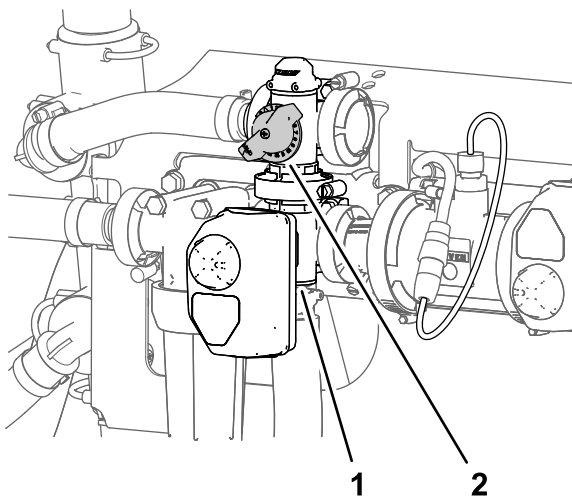

Figure 34
11. Adjust the agitation-bypass valve (Figure 34) on the backside of the agitation valve until the sprayer system pressure indicated on the gauge indicates 689 kPa (100 psi).